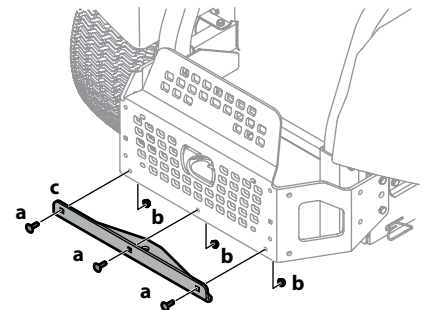

Figure 2-9
1. Remove the hex flange screws (a) and flange lock nuts (b) that secure the hitch bracket (c) to the bumper bracket. See Figure 2-9.